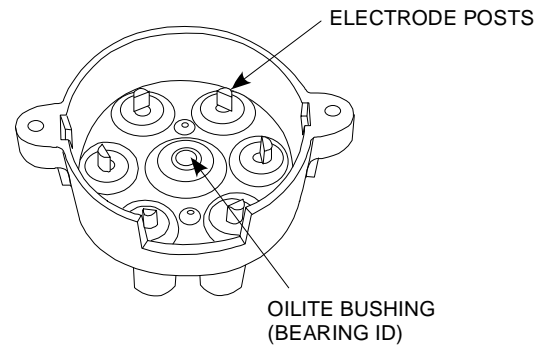

Figure 3.3.8
2. Inspect the brass electrode posts for signs of physical wear. Replace block assembly as necessary. During normal operation, the post will experience an electrical-metal transfer with the distributor gear electrode. This condition is normal and not cause for rejection. (See Figure 3.3.8.)